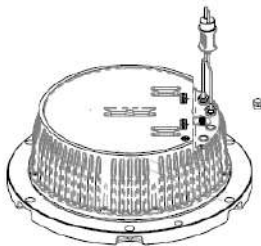

Figure 5-28
- Unscrew the valve cap at the lighting fixture bottom (see Figure 5-28).